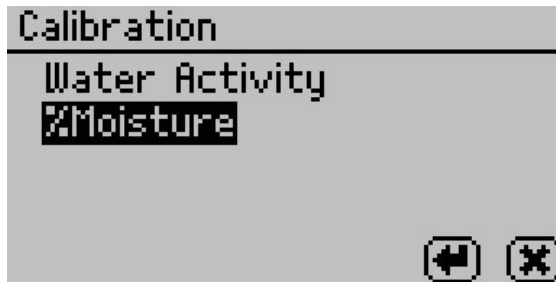

Figure 15 Select %Moisture on the Calibration tab
8. Select **%Moisture** from the list of calibration types (Figure 15).